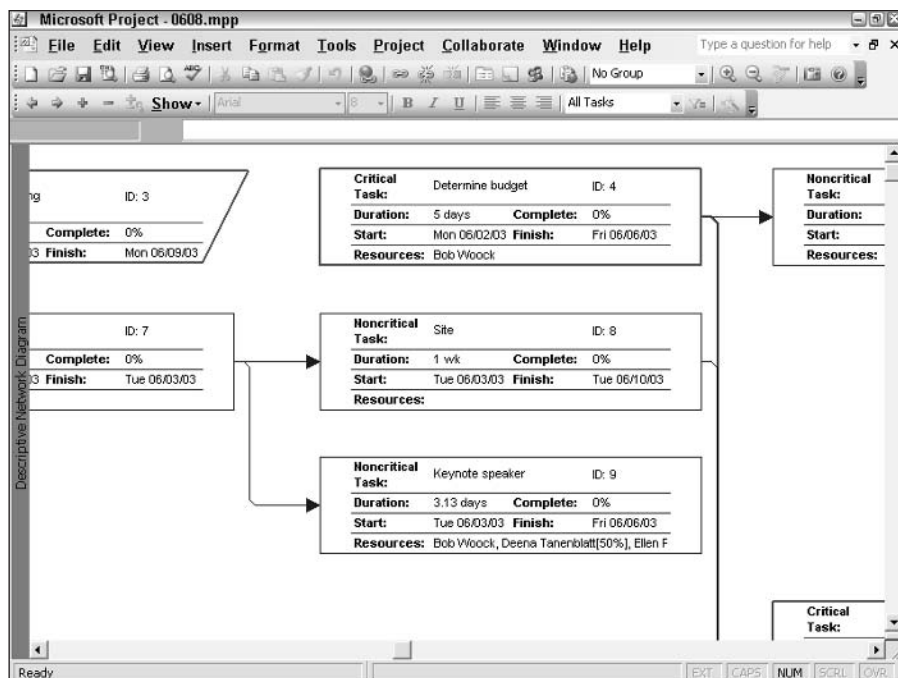

Figure 6-17: A Network Diagram that displays indicators in the nodes.
8. Click OK. You see the new field on appropriate nodes. In Figure 6-17, a Note indicator appears only in the Determine budget task, because no other tasks in view have notes.